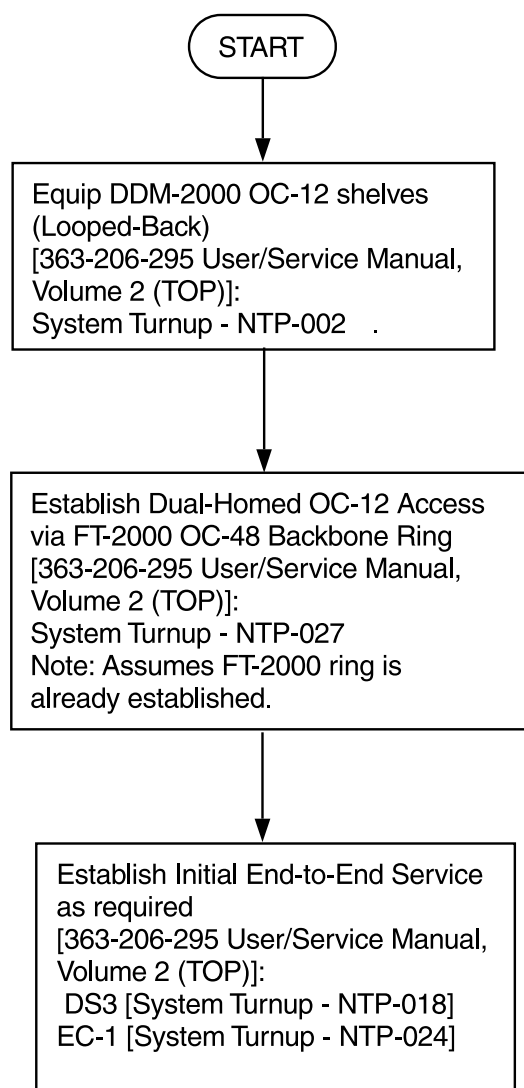

Figure 28. DDM-2000/FT-2000 Large Network Configurations — Dual-Homed OC-12 Access via FT-2000 OC-48 Backbone Ring
- Figure 28 Dual-Homed OC-12 Access via FT-2000 OC-48 Ring